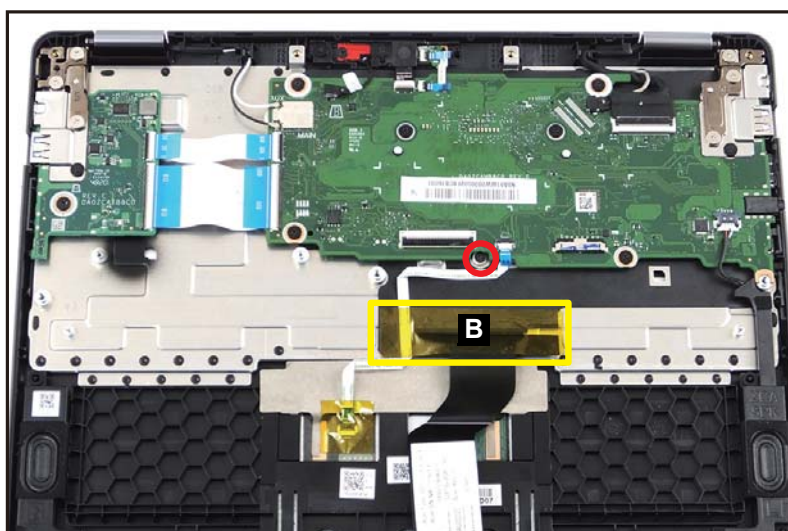

Figure 1-21. Keyboard Removal
2. Detach the adhesive tape (B) from the opening on the keyboard compartment (for keyboard FPC routing) (Figure 1-21).
3. Remove one (1) screw securing the keyboard in place (Figure 1-21).